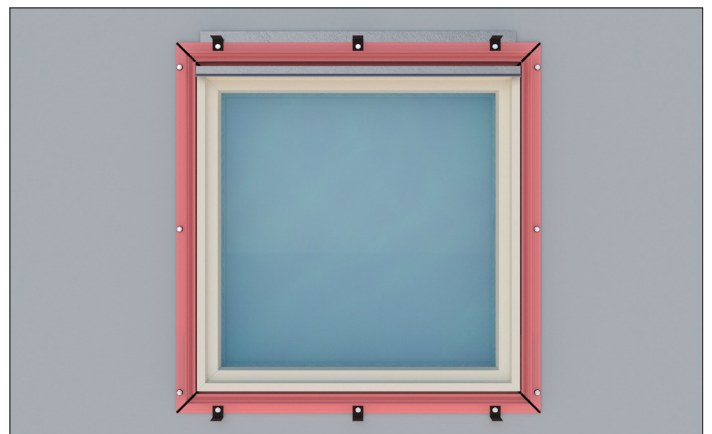

Figure 2
- 2 Attach P11 back plates cut to 45° around the window. For the P11 sill and head of window, add P30 plank backer 2" from ends and 16" center (Figure 2).